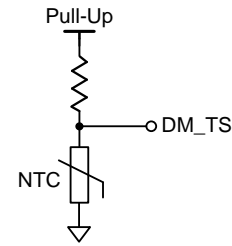

Figure 10. TS Function Connection
The device integrates temperature sense (TS) function to diagnose the external temperature with NTC thermistor. The voltage on NTC thermistor varies with different temperature. Figure 10 shows the DM_TS pin connection for the TS function. The device diagnoses TS_OTP from the DM_TS pin ADC value if DM_TS_CFG(0x005F[6]) is set to 1. If the external sensing voltage is lower than TS_OTP threshold, the device will stop charging and reset CHG_EN bit to disable. The temperature information is derived from the DM_TS pin ADC value. For using this function, enabling DM ADC conversion is necessary.